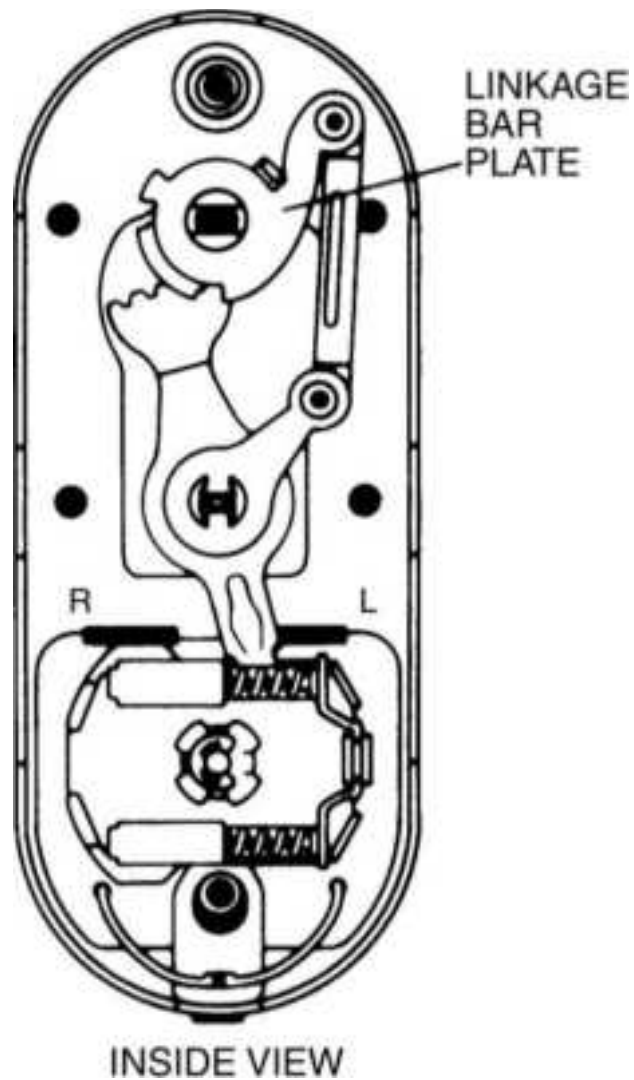

**Figure 13.85** Changing hand, Step 16.
16. Install the linkage-bar plate (Fig. 13.85 ).